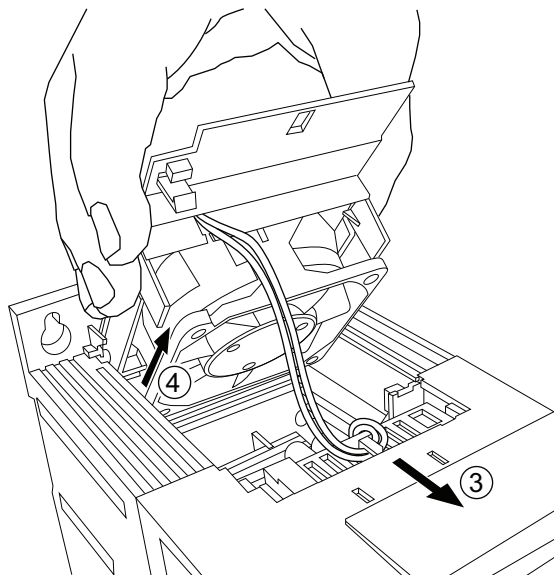

Fig. 49 — Remove Fan Holder and Free Fan Cable
3. Free the fan cable from the clip in the drive frame (see Fig. 49).
4. Lift the holder from the hinges (see Fig. 49).